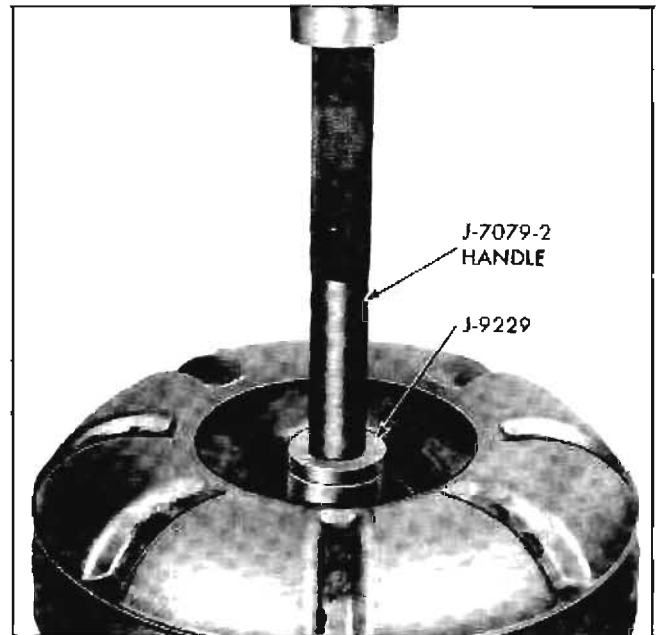

Fig. 7A-64 Installing Converter Bushing
2. Install new bushing using J-9229 as shown in Fig. 7A-61.